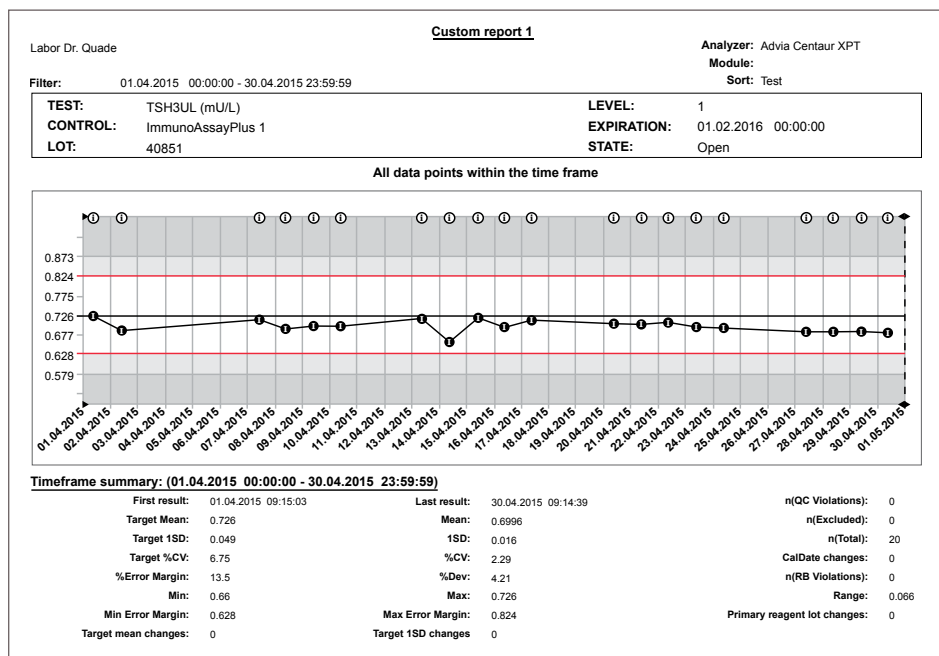

Figure 2. Report generated by the quality management software of the ADVIA Centaur XPT System. RiliBÄK rules (indicated by the red lines) are applied.
The new ADVIA Centaur XPT System has onboard quality control management that complies with current German Richtlinien Bundesärztekammer (RiliBÄK) quality management requirements*. (Figure 2) shows a screen shot of a custom report for TSH quality control (QC) level 1 in April 2015. All the required data, such as test date, assay name, QC expiration date, lot number, and RiliBÄK range, are available.